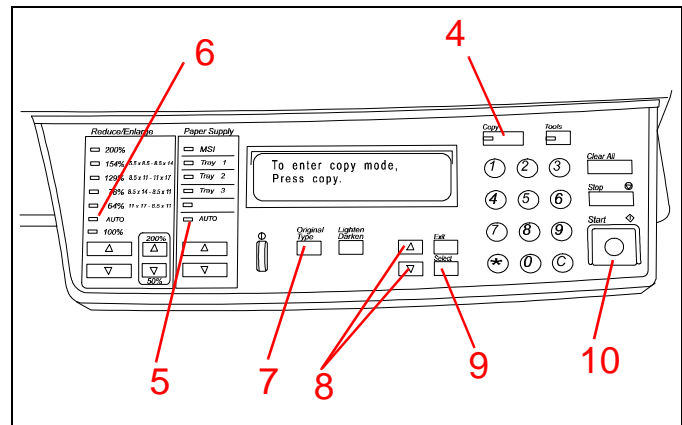

Figure 41
- See Figure 41. Press the **Copy** button.